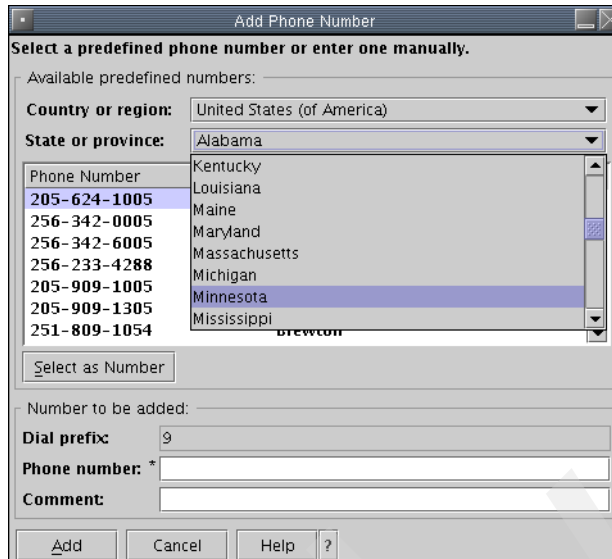

Figure 4-35 Guided Setup wizard - Add Phone Number
34. The Add Phone Number window is launched (see Figure 4-35). Use the drop down menus to select your Country/region and then your State/province.